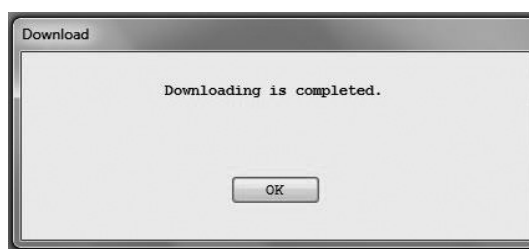

Fig. 3-92
- (9) Once the download is completed, a message box (Fig. 3-92) will be displayed. Click "OK" button.